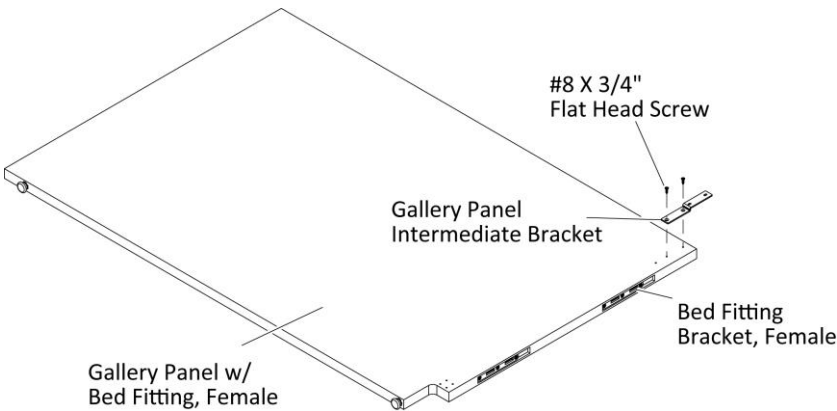

Figure 3
- Position and align holes in the gallery panel intermediate bracket to pre-drilled holes in the gallery panel with the female bed fitting bracket, (Figure 3).